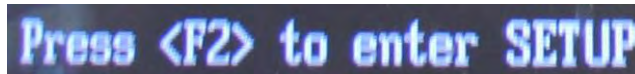

Figure 1-95. F2 to Enter Setup
2. When the computer starts, press the **F2** key as directed by the boot-up sequence (Figure 1-95).